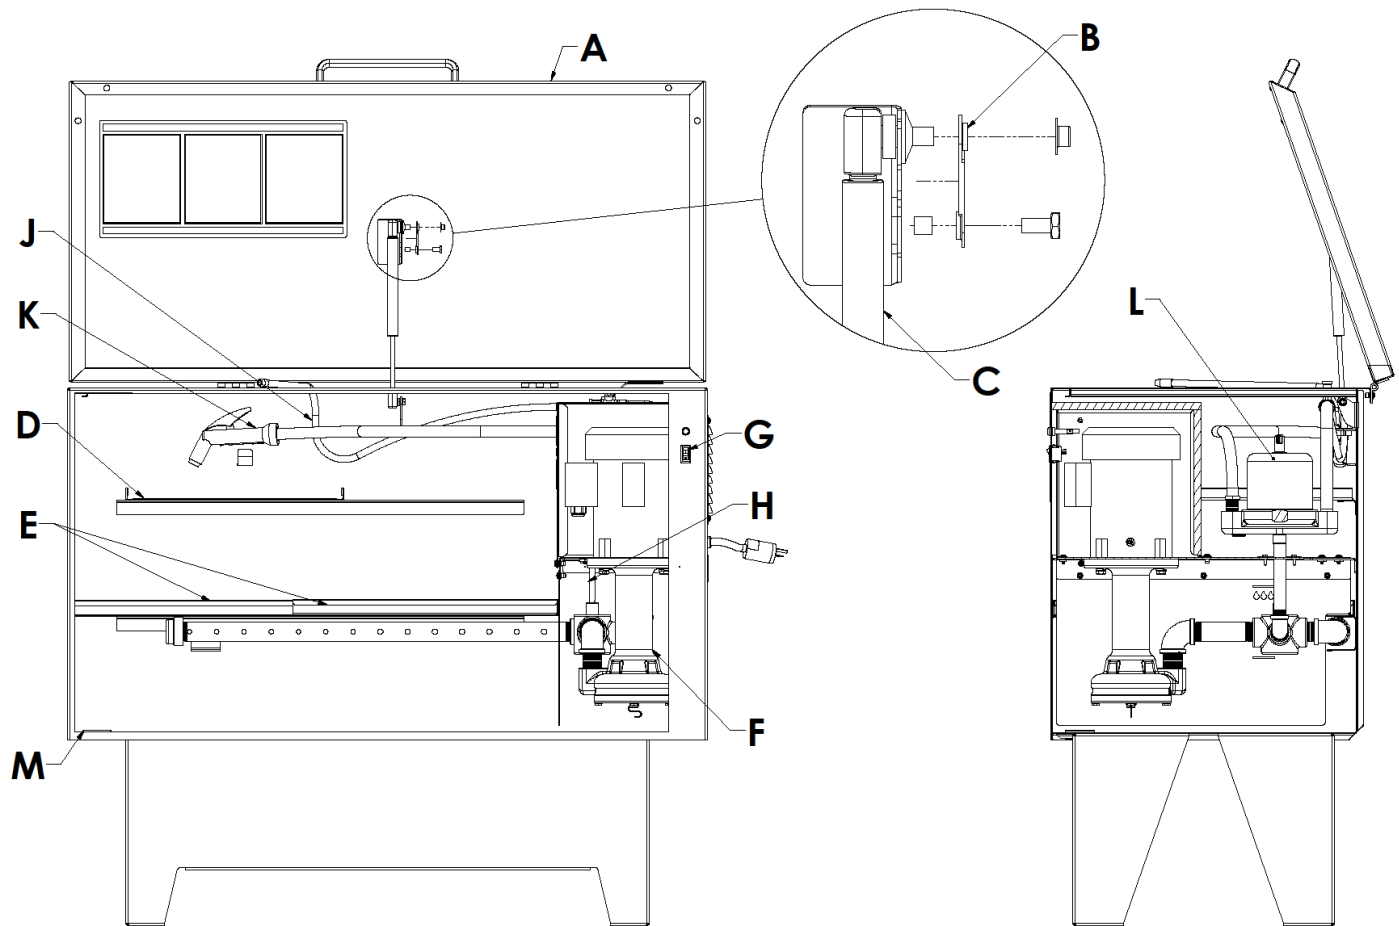

FIGURE 1
Open the automatic Safety Cover (FIGURE 1 (A)) on your PrintClean and you will notice that it lifts simply
Your PrintClean cover is equipped with a two-way gas spring (FIGURE 1 (C)) that also incorporates a fusible link (FIGURE 1 (B)). When open, the cover mechanism supports the cover at a slightly forward angle. This angle is necessary to assure the cover's fusible link will operate in the unlikely event of fire in the tank. In the event of a fire, the fusible link will melt at 165°F permitting the lid to slam shut, reducing oxygen supply to the fire.
Every PrintClean comes equipped with one perforated shelf (FIGURE 1 (D)) and two telescoping shelves (FIGURE 1 (E)) which serve as a freeboard barrier to help limit VOC emissions. Your own cleaning needs will determine which position is best for your operation.
The centrifugal pumping unit (FIGURE 1 (F)) supplied with the PrintClean is a rugged “machine tool” quality unit that is a valuable aid in parts cleaning. It is particularly useful in flushing away softened grease and grime after parts have been soaked.
To operate the pump and tank agitation after filling, turn on the switch (FIGURE 1 (G)) on the front of the PrintClean or turn valve for air. The green pilot light should go on, indicating that the pump is running. On all models, the small valve on the flexible metal hose (FIGURE 1 (J)) allows you to cut off flow to the flexible hose, directing all fluid through the spray hose (FIGURE 1 (K)). Always direct flow into tank in such a way as to avoid splashing. Never point spray nozzle at anyone. On Models 554 through 974, the Selector Valve (FIGURE 1 (H)) is located on the inside rear-right hand side of the tank. The Selector Valve permits use of tank agitation alone, the flush and spray hoses together, or a combination of all three.
Your PrintClean is equipped with a filter (FIGURE 1 (L)) with a reusable screen collector element. This screen collector should be cleaned at least once a week, more often in heavy use, in order to help extend the life of the cleaning fluid and increase cleaning efficiency. Periodically, an oil filter cartridge (see spare parts list below) can be placed in the filter canister in place of the screen collector. Running the pump for a few hours will pull more contaminants out of the fluid and help extend fluid's usable life. (not included with HP version)